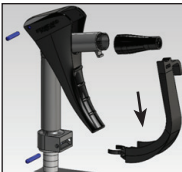

Figure 4
3. Remove the trigger guard and remove the trigger (Figure 4 & 5).